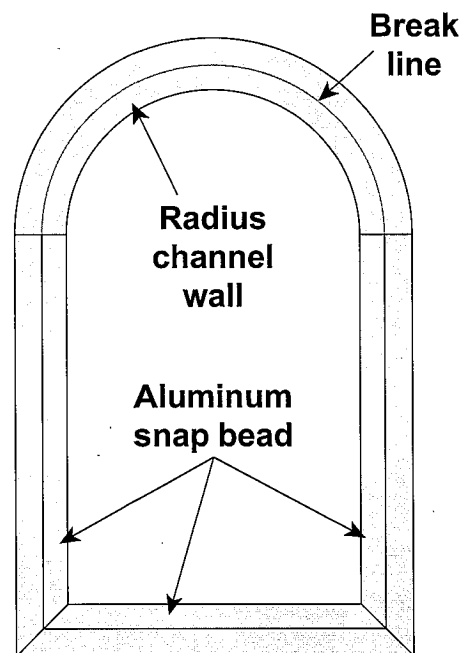

figure 1
1. Remove the aluminum snap bead from the straight sections of frame (figure 1). Do this on the interior and exterior sides of the window.
4. Remove the radius channel walls from the curved section of frame (figures 1 & 3). This wall is already scored on the inside of the frame and will break off after bending the wall back and forth a few times. Do this on the interior and exterior sides of the window.